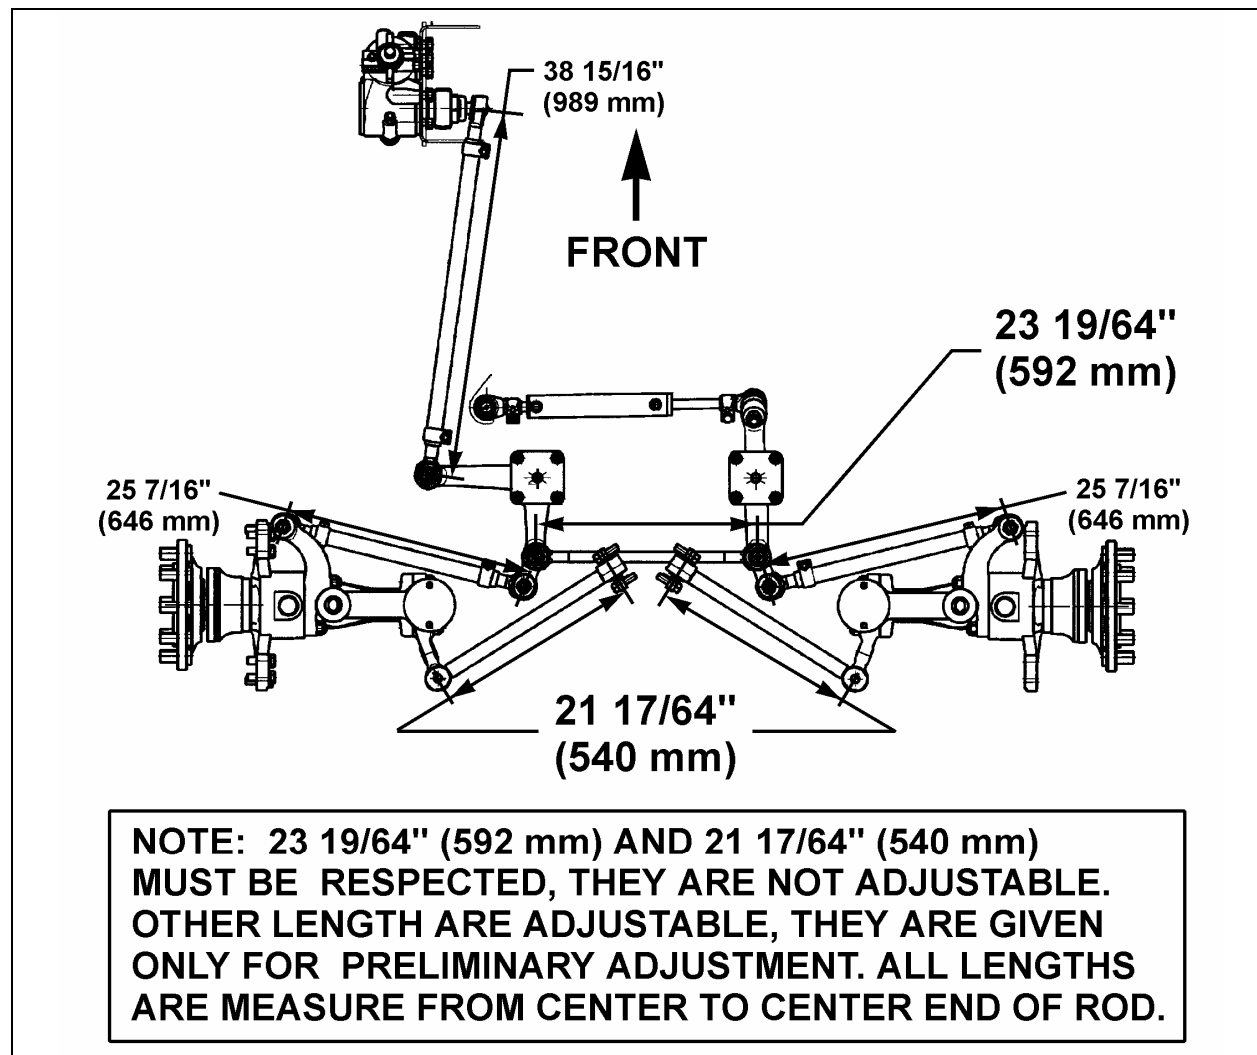

FIGURE 21: STEERING LINKAGE MEASURE
7. Check if the length of the torque rods is 21 17/64" (540 mm) (Fig. 21). Check if the length of the relay rod is 23 19/64" (592 mm).